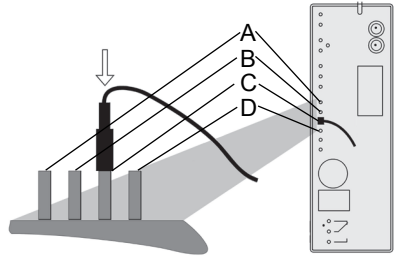

Fig. 5: Time control
3. Select the desired time interval for the time-controlled automatic backwashing process on the control electronics of the automatic system. To do this, attach the cable lug of the short cable strand to the pin with the inscription corresponding to the desired time interval (see Figure 5).